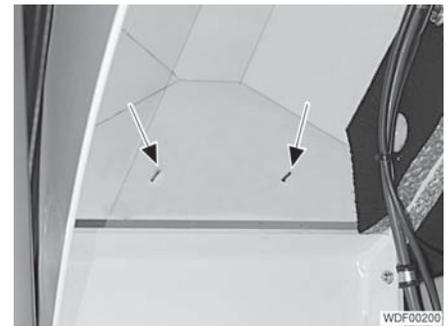

Fig. 307 Attachment pins
- Clean the bonding surface and attachment pins (Fig. 307).